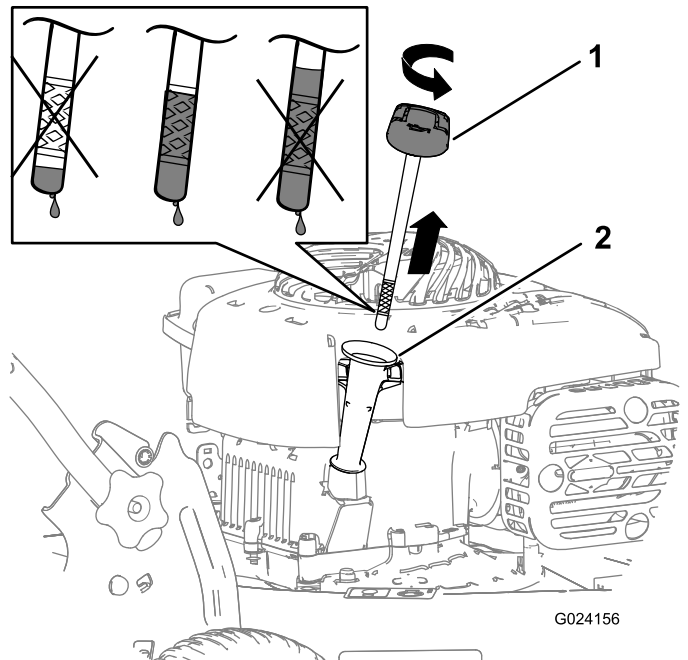

Figure 19
8. Remove the dipstick and read the oil level on the dipstick (Figure 19).